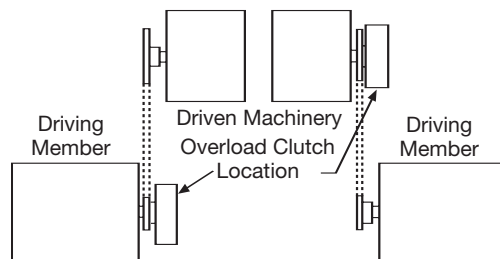

Figure 9
- a. Either location of the clutch shown in Figure 9 is preferred in indirect drive applications.